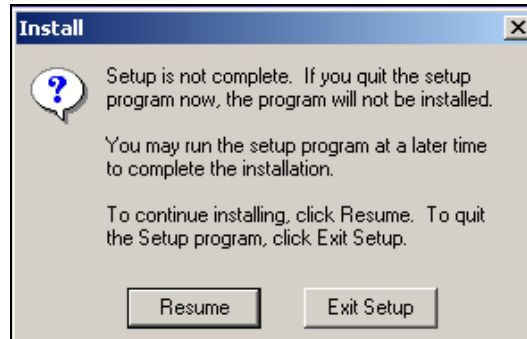

FIGURE 36: Install Prompt
3. If you select **Cancel**, then the following screen appears (see Figure 36).
During the installation sequence, whenever the Cancel function button is selected, the program returns to the screen in Figure 36.